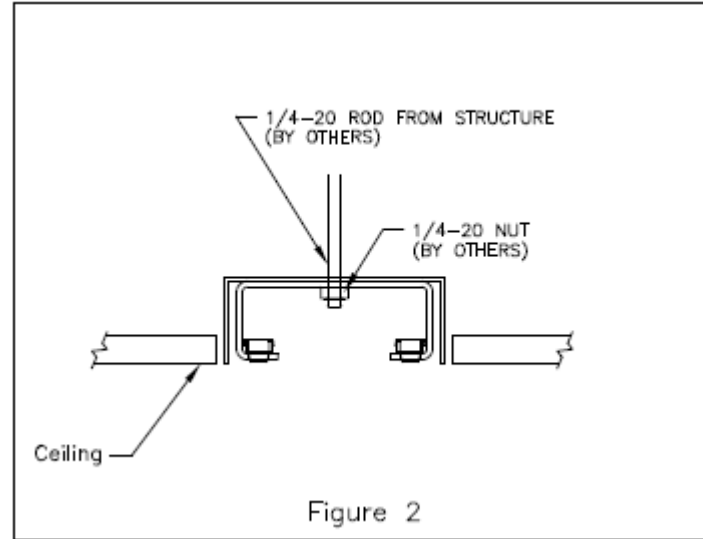

Figure 2
2. Determine the appropriate support method for ceiling construction (sample method is shown on Figure 2 above). Attach the appropriate fastening devices through the holes of the bracket and box and secure the assembly to support structure.